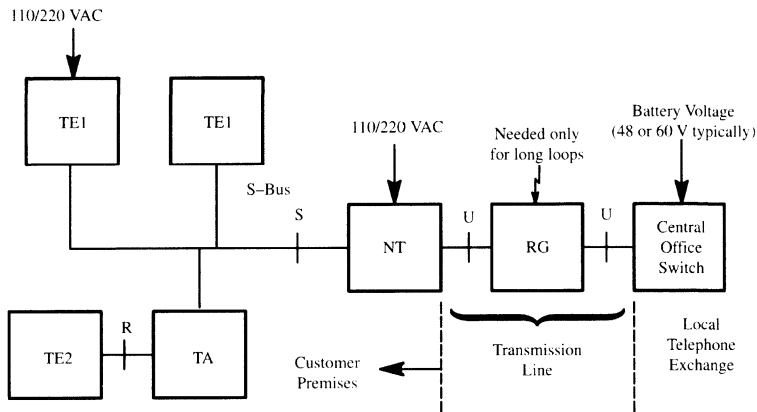

Figure 1. ISDN Basic Access Configuration
Figure 1 is a block diagram of the ISDN basic access configuration. The two-wire transmission line defined at the U-interface provides a 192 k-bits-per-second (bps) digital data path which connects subscriber equipment to the local telephone exchange. Although ISDN permits many new services to be offered, the basic service of voice transmission remains a vital function. Therefore, the network power feeding from batteries in the local telephone exchange remains an essential part of modern telephone system planning. The network terminal (NT) connects the local loop, called the S-bus, to the U-interface at the customer's premises. ISDN-compatible terminals (TE1) communicate at a standard 64 k-bps rate over the four-wire S-bus. Non-ISDN-compatible terminal equipment (TE2), such as analog phones, must connect to the S-bus via a terminal adapter (TA).